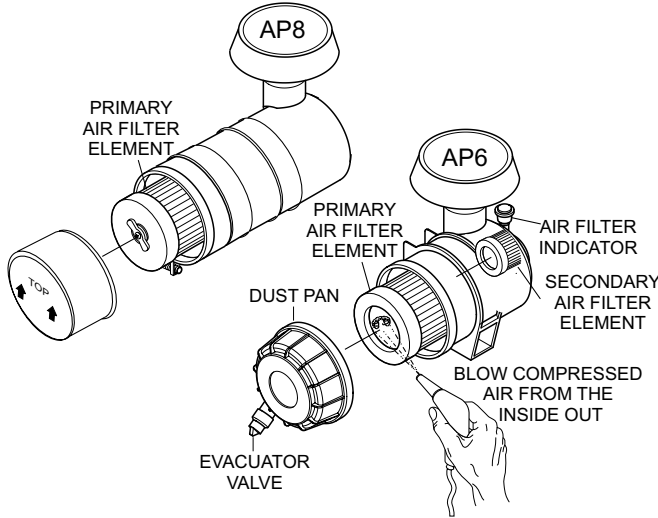

Figure 50. Air Filter
5. To clean the main element (paper air filter) as referenced in (Figure 50), tap the filter element several times on a hard surface to remove dirt, or blow compressed air from the inside out (not to exceed 30 psi (207 kPa, 2.1 kgf/cm²).